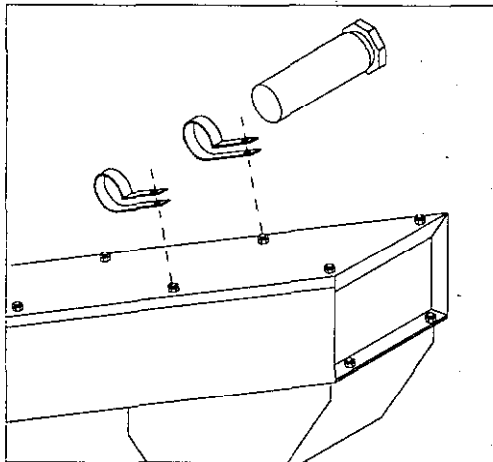

Figure 9
23. Mount the manual tube and clamps on second set of bolts from the top of the elevator. See Fig. 9.